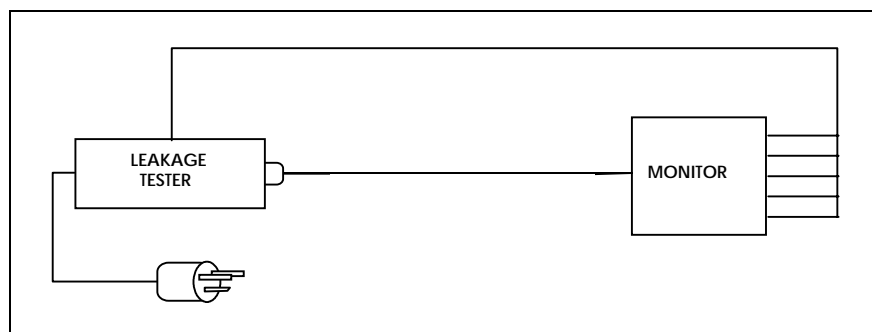

Figure 4-4 Leakage Current Test Setups
- 1) Perform leakage current tests with monitor plugged into leakage tester. See Figure 4-4.